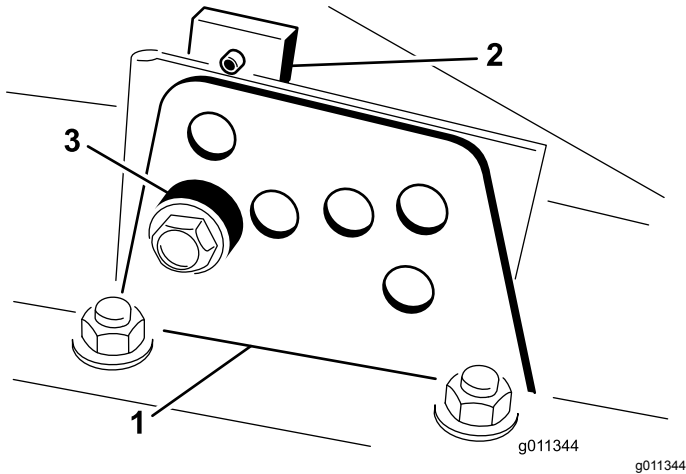

Figure 8
- Loosen the bolt securing each height-of-cut bracket to the height-of-cut plate (front and each side) (Figure 8).
- While supporting the chamber, remove the spacer (Figure 8).